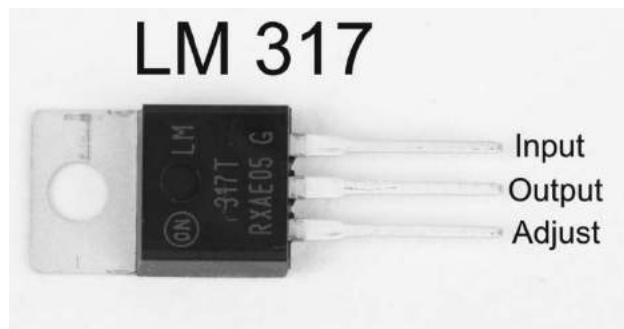

Figure 3-4: Pinout of the LM317 regulator
For reference, Figures 3-4 and 3-5 show the pinouts of the LM317 and the LM7805, respectively.
4. Insert the LM317, with or without heat sink attached, near the potentiometer, as shown in Figure 3-7. (See Figure 3-4 for the pinout of the LM317.)